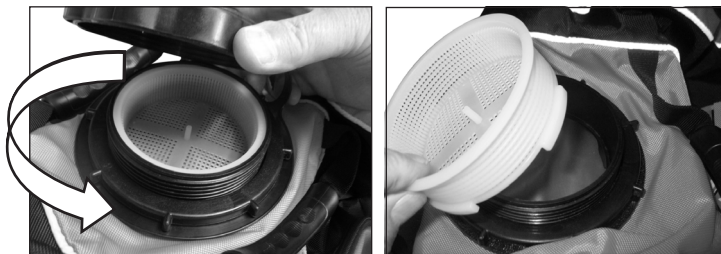

Figure 1.
1. Remove cap by rotating counterclockwise by hand and remove filter basket. (See Figure 1.)